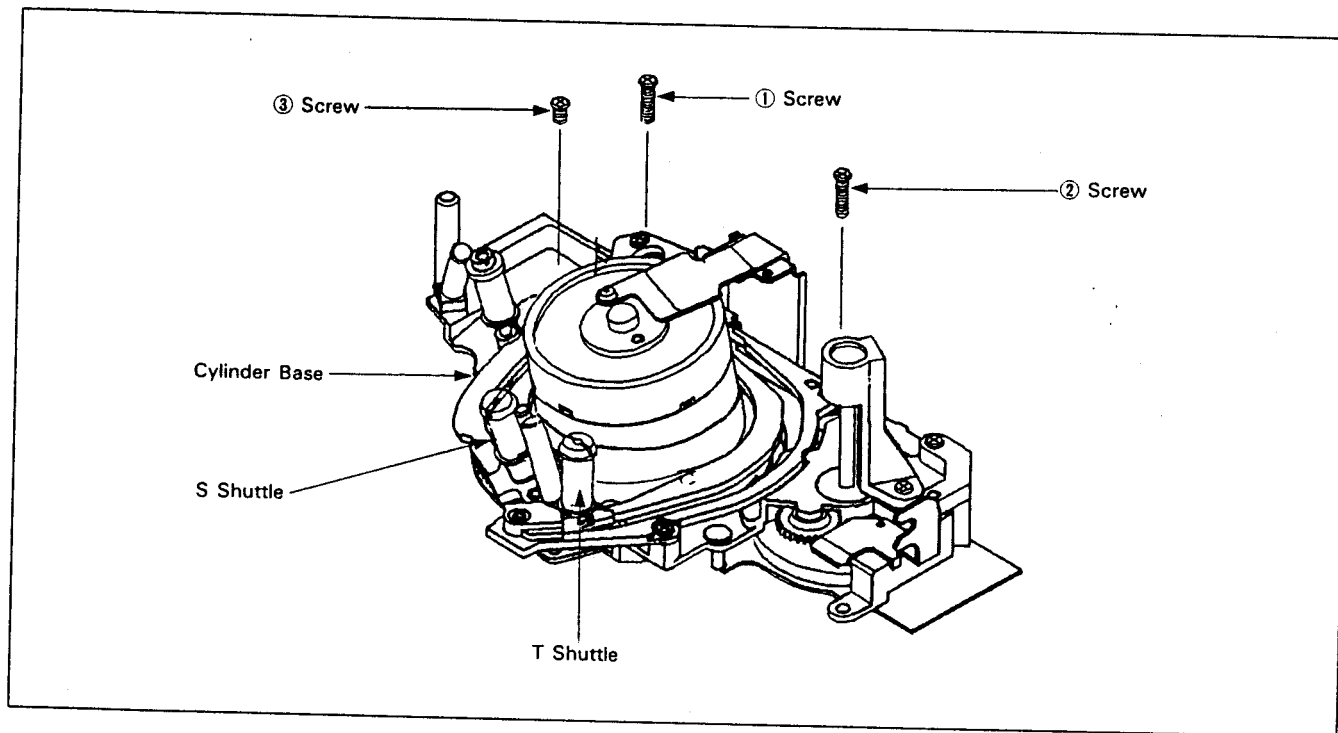

Fig. 2-28.
- 1) Referring to Fig. 2-28, set S and T shuttles into unloading position.